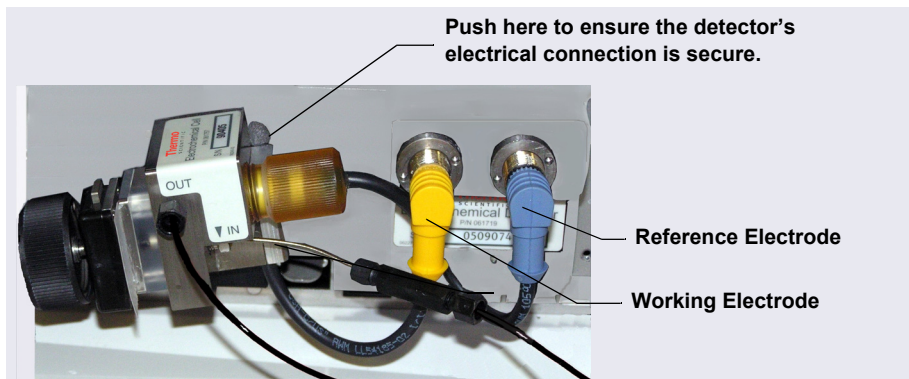

Figure 9-4. *Electrochemical Detector Connection (Analytical Cell Shown)*
1. Check the detector connections: Verify that the signal cable from the cell is connected to the appropriate connector on the detector block (see Figure 9-4). Also, push firmly on the detector to ensure that the
Check the cable connection: Verify that the signal cable from the working electrode is connected to the detector block (see Figure 9-4).
Verify that the signal cable from the reference electrode is connected to the detector block (see Figure 9-4).